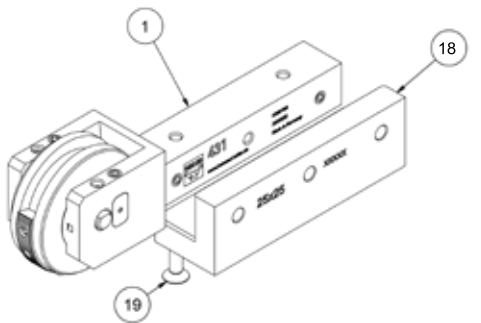

Figure 10: Shank adapter installation
With use of shank adapters, the tool can be used on all machines. For this purpose, fasten the supplied shank adapter (Fig. 10, pos. 18) with the accompanying countersunk screws (Fig. 10, pos. 19) on the base shank (Fig. 10, pos. 1).